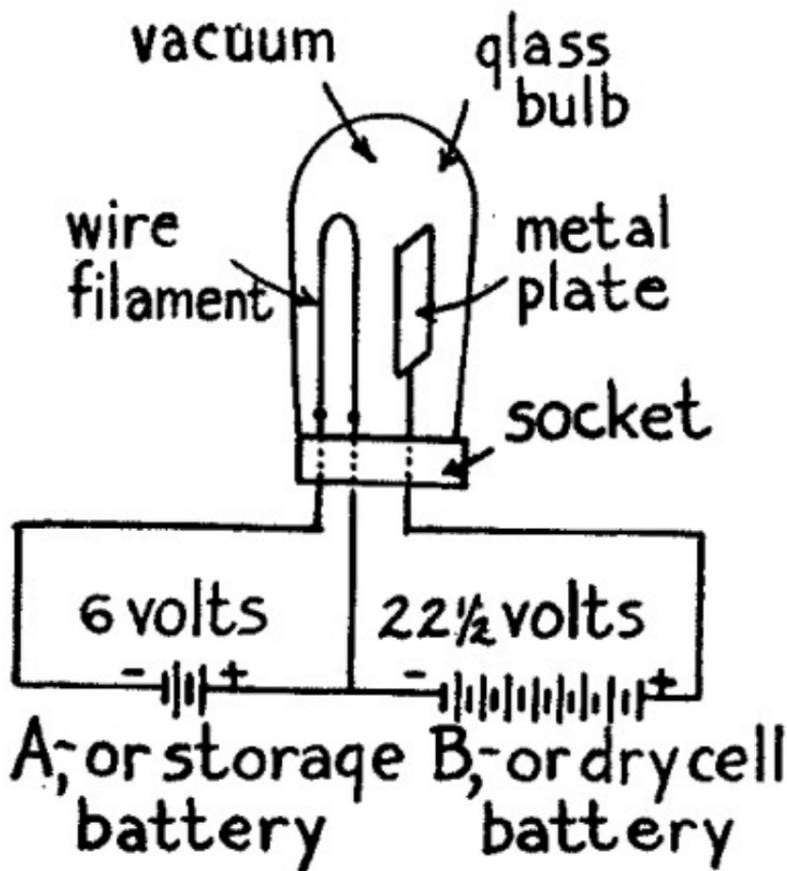

FIG. 37.—Two Electrode Vacuum Tube Detectors.
*The Vacuum Tube Detector. With Two Electrodes.*--A vacuum tube in its simplest form consists of a glass bulb like an incandescent lamp in which a *wire filament* and a *metal plate* are sealed as shown in *Fig. 37*, The air is then pumped out of the tube and a vacuum left or after it is exhausted it is filled with nitrogen, which cannot burn.
connected to the metal plate while the - or *negative* terminal of the battery is connected to one of the terminals of the wire filament. The diagram, *Fig. 37*, simply shows how the two electrode vacuum tube, the *A* or dry battery, and the *B* or storage battery are connected up.